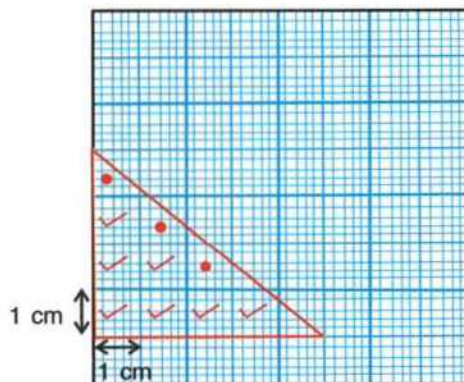

Fig. 2.19 Measurement of area of a triangular lamina
1. In Fig. 2.19 the complete squares marked as (\checkmark) are 7 and the half or more than half squares marked as (\bullet) are 3.